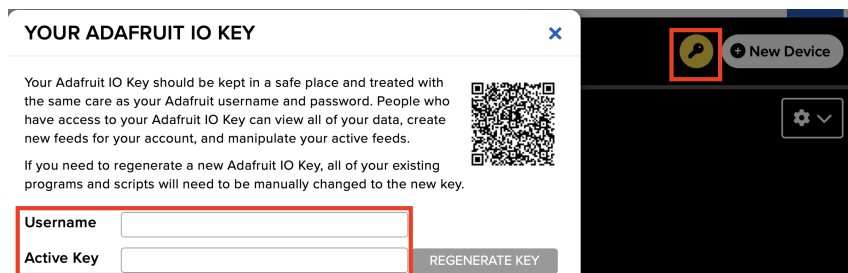

Figure 9.7: Username and key.
12. The last two parameters are credentials for access to the Adafruit IO cloud. Go back to the Adafruit website and click the key symbol. When you do this, your Username and Key will appear (see Fig. 9.7). Copy this data to the program to lines 14-15.